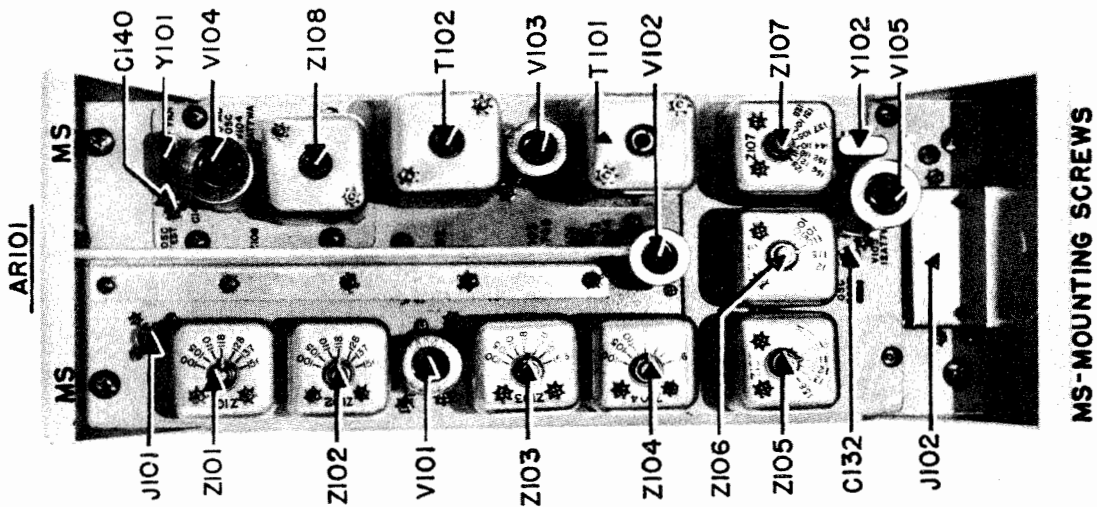

Figure 1-8. RF Sub-Chassis, Top View
c. **SUB-CHASSIS ASSEMBLIES DESCRIPTION.**—These units, as indicated in figures 1-8, 1-9, and 1-10 are completely wired assemblies, designed for quick removal and replacement as plug-in units. Angle brackets, at the front and rear, form handles which facilitate handling and unplugging the units, and four mounting standoffs (one at each corner) with captive screws provide means of fastening the units to the front panel-frame assembly. The receptacle connector, located at one end, is covered by a plate to avoid contact with voltage carrying wires. All coils are shielded; all tube sockets have saddle mounts with a metal shock shield and tube shields.
d. RF SUB-CHASSIS ASSEMBLY.—This unit, shown in figure 1-8, contains an RF amplifier, a channel determining oscillator/frequency multiplier, the 1st mixer, a first IF amplifier, and the second conversion oscillator (20 Mc). All coils are contained in individual aluminum cans for isolation and reduction of interaction between different parts of the circuits. The RF can tops have frequency calibrations to aid frequency changing. The 23 Mc IF transformer slugs must be adjusted from the top and bottom of the can with a special tool furnished with the receiver. This alignment tool is mounted behind the front end plate of the Audio-Power Supply sub-chassis. A small separate sub-chassis, which is mounted slightly higher than the remaining sub-chassis level, mounts the components of the Frequency Determining Oscillator/Multiplier circuit, including the crystal Y102. A coaxial receptacle at the rear of the RF unit is provided for the antenna transmission line, which